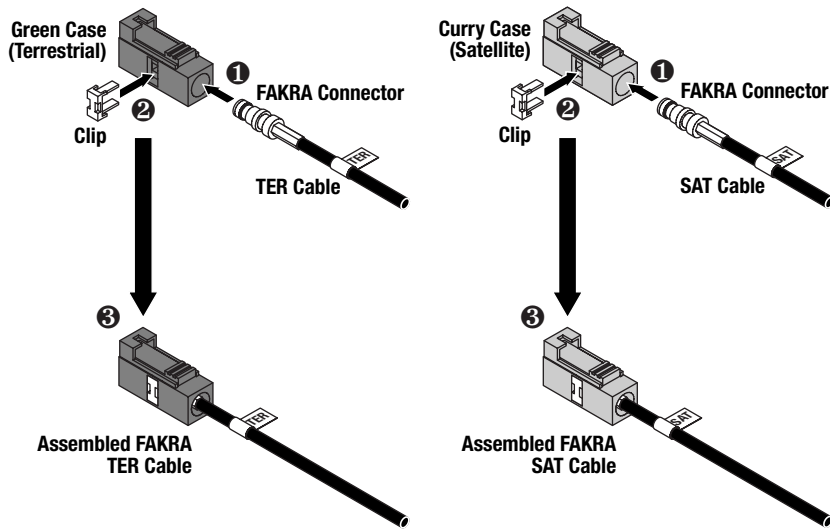

Figure 5. Inserting the FAKRA SMB connectors into plastic cases.
4. Use the color codes in Figure 5 (on the next page) to insert the FAKRA SMB connectors into the supplied plastic cases. Then lock them with the supplied clips.